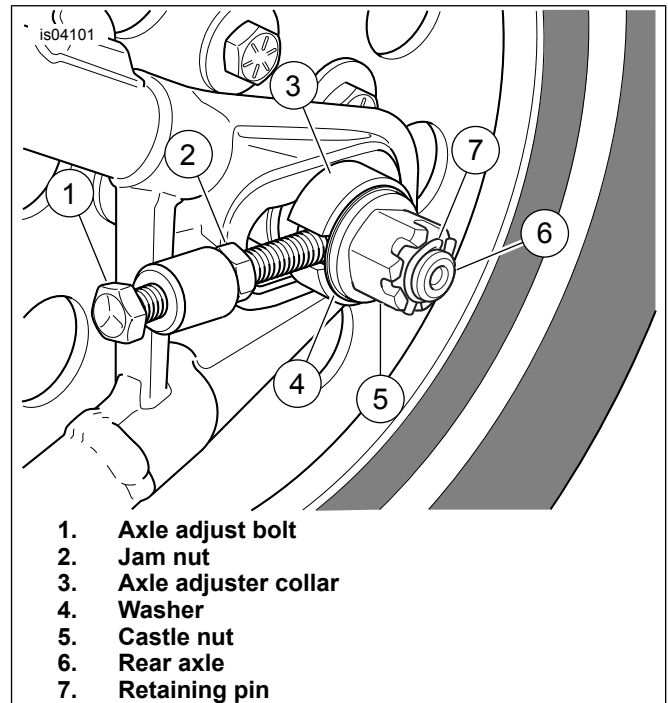
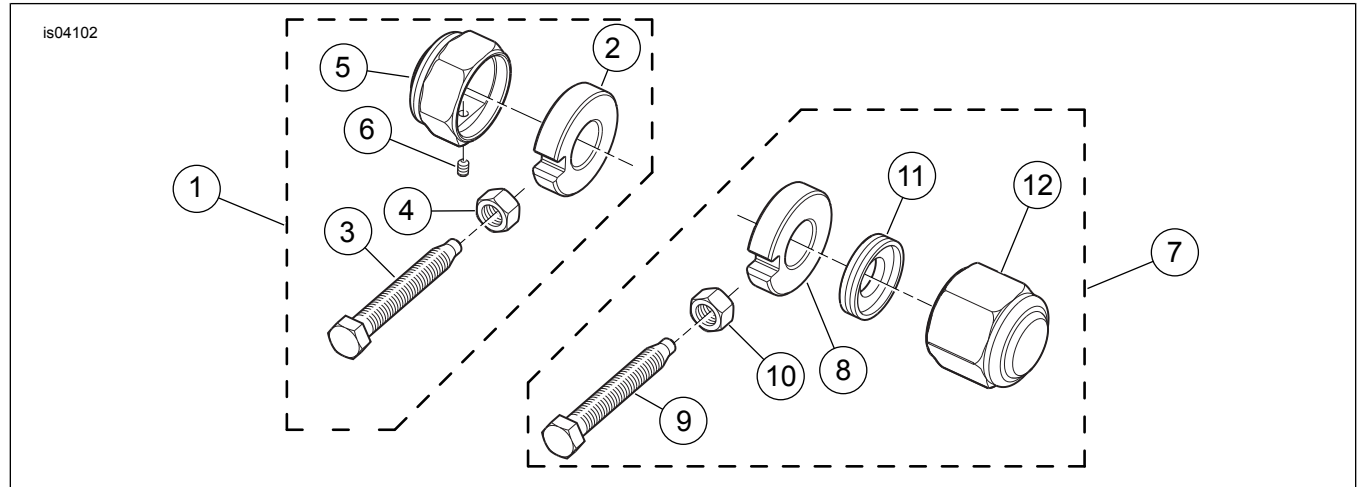

Figure 1. Rear Axle Hardware (Left Side Shown)
Figure 2. Service Parts: Chrome Rear Axle Adjuster and Cover
See Figure 1. If the axle nut is held in place by a cotter pin or spring clip, a Retaining Pin (7), Harley-Davidson Part Number 508 must be purchased separately. This item is available from a Harley-Davidson Dealer.
See Figure 2 and Table 1.
3. See Figure 1. Remove the original axle adjustment bolts (1) and jam nuts (2) from both sides of the motorcycle and discard.
- a. See Figure 2. Slide one axle adjuster collar (2) from the kit onto the axle shaft.
- d. Slide the second axle adjuster collar (8) from the kit onto the axle shaft. Place the threaded spacer (4) onto the axle shaft, small bore first.
- e. See Figure 1. Install the castle nut (5) onto the axle, but do not tighten at this time.
8. See Figure 2. Install the new axle adjustment bolts (3 and 9) from front to rear through the threaded holes in the rear forks.